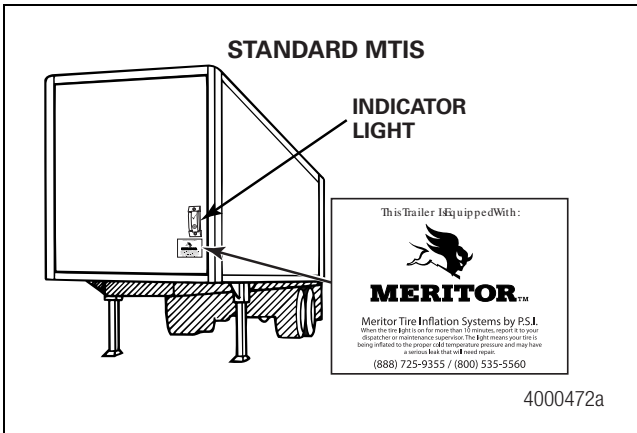
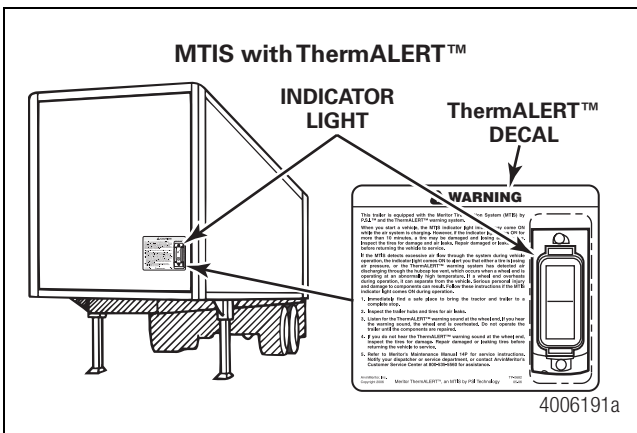

Figure 2.71
Figure 2.72
2. Install the indicator light decal below the light. Figure 2.71 or Figure 2.72.